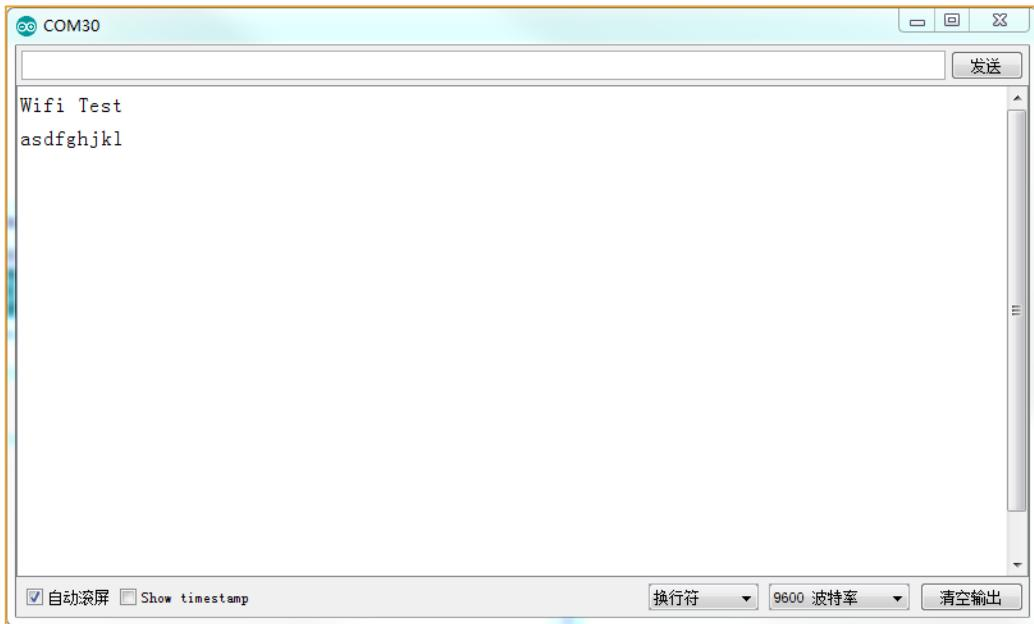

Figure 4-9-7
7) After clicking Send, we can see that the content sent by the mobile phone is printed on the serial monitor, as shown in Figure 4-9-7, indicating that the Bluetooth module can send data normally. Of course, for the accuracy of the test. High, you can test more times and try to test in different environments. You can also